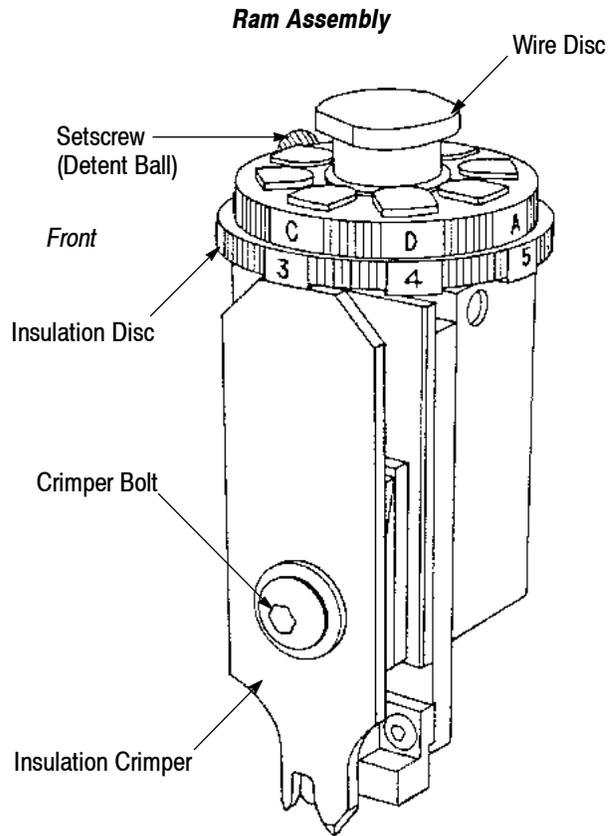

Figure 9
4.8. Wire Crimp Adjustment (Figure 9)